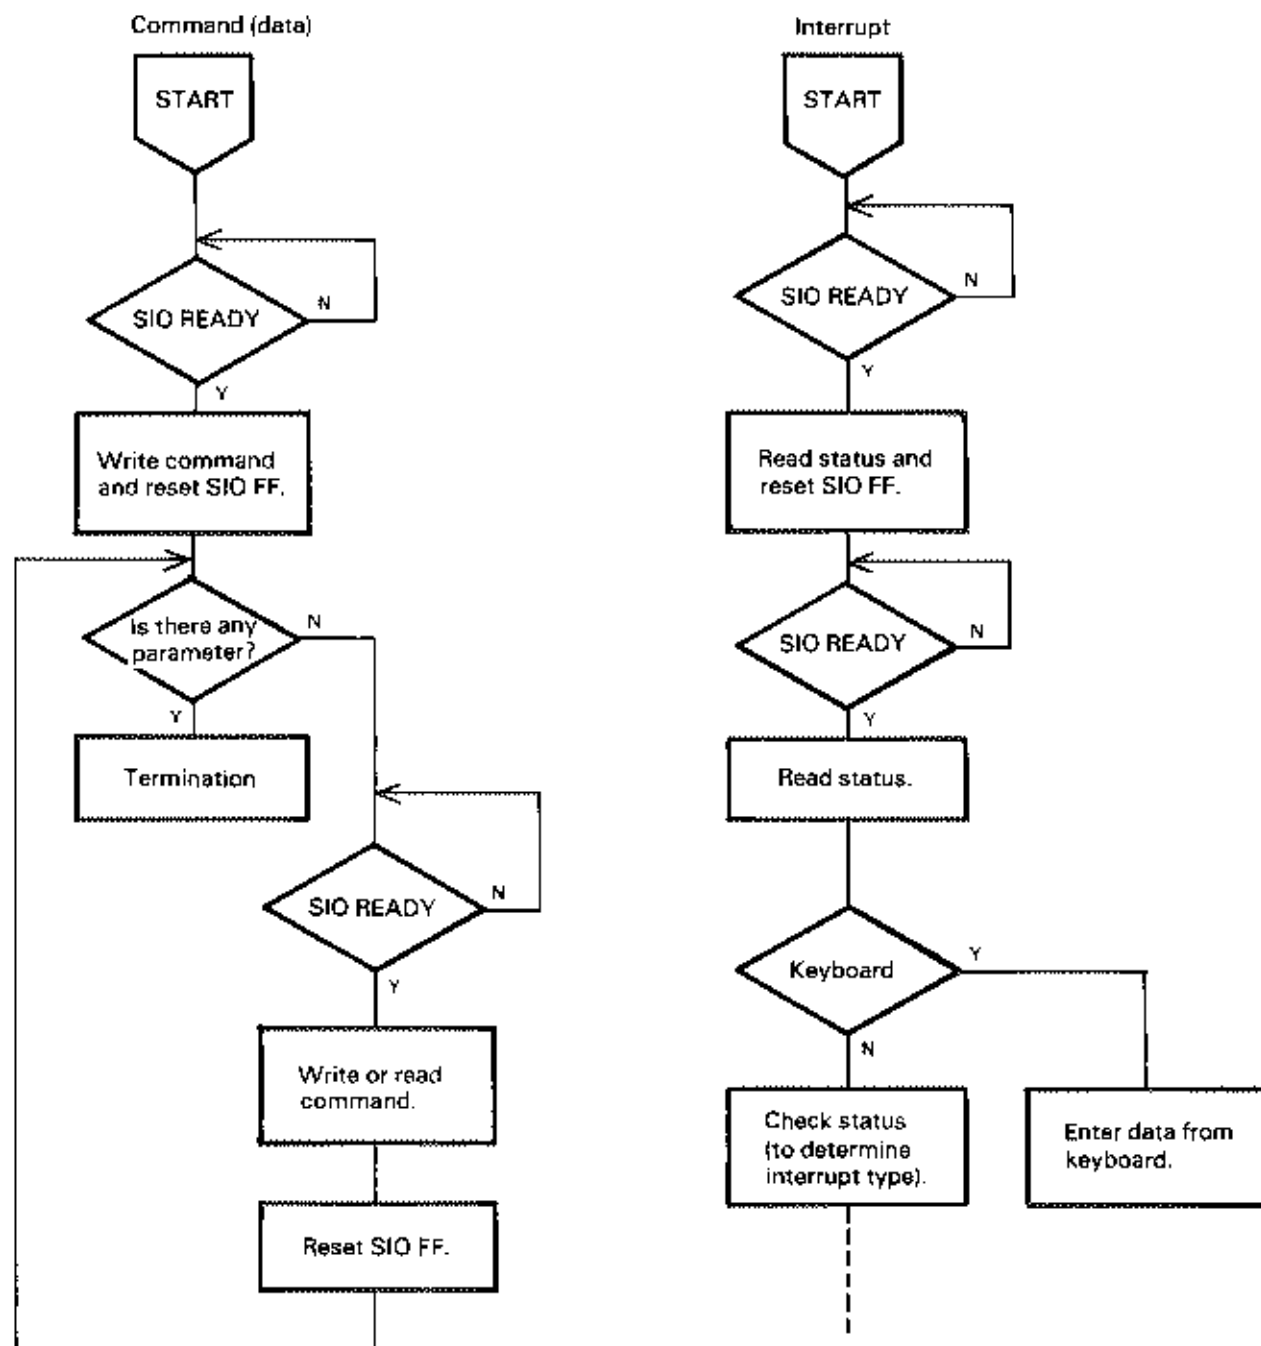

Fig. 2-28 Main CPU and Sub-CPU Interfacing Operations
- The SIO READY signal is set and reset either by a command (data) or interrupt. The operations are illustrated by Fig. 2-28